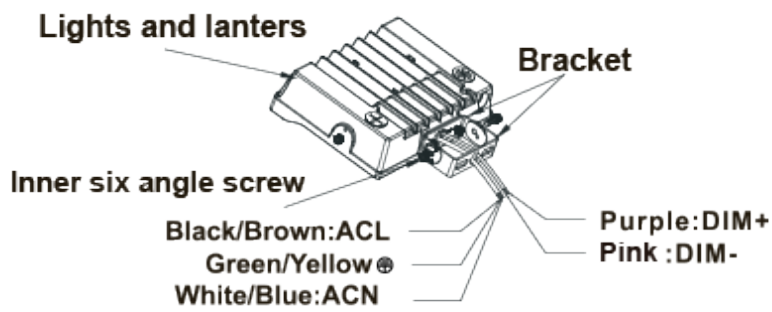

figure 6.5
Step 2: Finish the wire connection according to the right mode of connection (pay attention to positive wire, negative wire, and ground wire). (Figure 6.5)